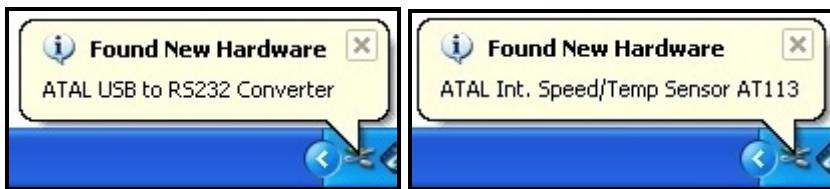

Fig. 52 – Examples of info tips about the detection of a new device (Windows XP)
After you have successfully installed **any program from the Multi-Diag family** and you then connect **any USB device from the ATAL company** to your computer, information about new hardware (HW) will appear in the form of a Windows "Info tip" (see Fig. 52).
3. The device should be detected, see Fig. 52.